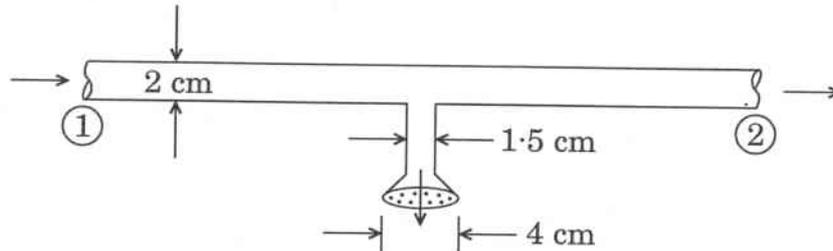

Figure 5(a)
- Q5. (a) Water flows steadily through the piping junction, entering section ① at  $0.12 \text{ m}^3/\text{min}$ . The average velocity at the section ② is  $2.2 \text{ m/sec}$ . A portion of the flow is diverted through the showerhead, which contains 100 holes of  $1 \text{ mm}$  diameter. Assuming uniform shower flow, estimate the exit velocity from the showerhead jets. Take density of water =  $1000 \text{ kg/m}^3$ . (Please refer Figure 5(a))